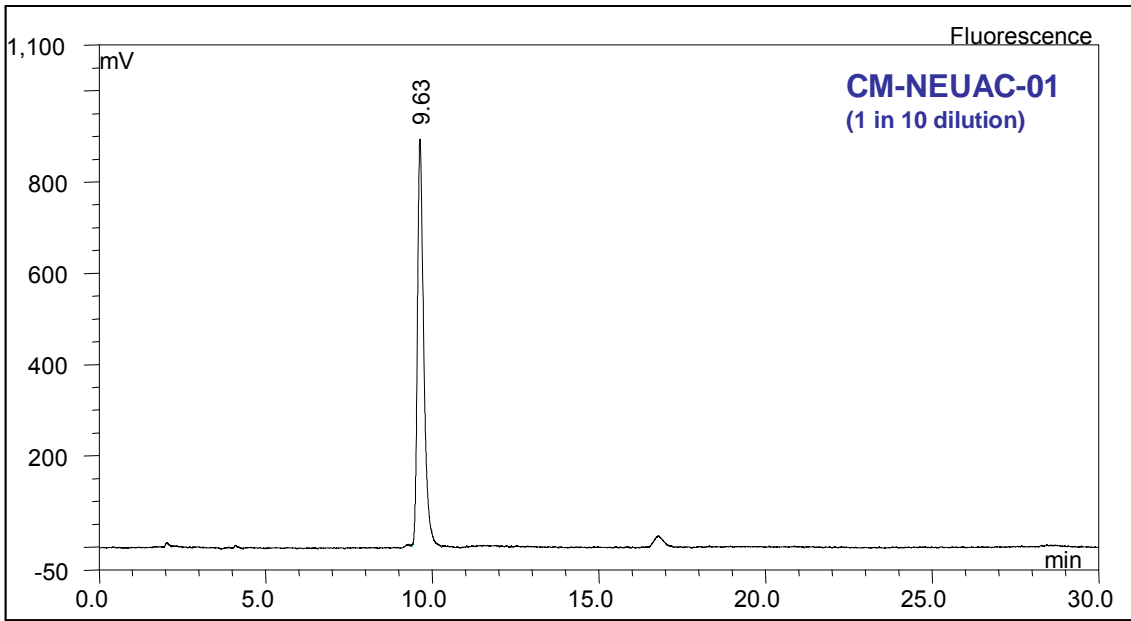

Figure 3: Chromatogram of DMB Labeled Neu5Ac (CM-NEUAC-01) (1 in 10 dilution) run on the LudgerSep™ R1 HPLC column.
- 2) Prepare test samples at a range of dilutions e.g. 1 in 10, 1 in 20 and 1 in 30 (to determine the dilution at which optimal peak resolution is achieved) See Appendix A1. Figures 3 and 4 show the NeuAc and NeuGc standards run at 1 in 10 dilution.